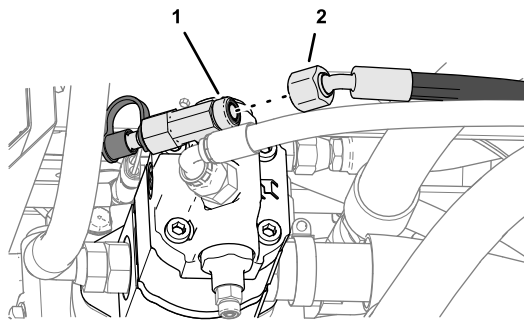

Figure 133
3. Assemble the 45° fitting of the hose 10 x 2921 mm (3/8 x 115 inches) onto the T-fitting, and tighten the hose fitting (Figure 133).